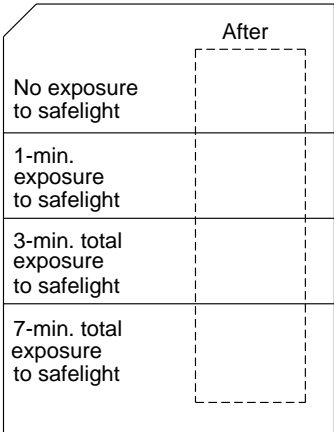

Figure 2
5. Make the safelight exposures. With all the lights still off, place a large piece of cardboard on top of the developer tray or in the area where safelight illumination is brightest. Place the photographic paper on the cardboard. Using an opaque card, cover about one fourth of the paper. Turn on the safelight, and expose the uncovered part of the paper for 1 minute. Move the card to cover half of the paper, and expose the other half for an additional 2 minutes. Cover all but one fourth and expose it for 4 more minutes. The four parts of the paper will have received 0, 1, 3, and 7 minutes of safelight exposure. (See Figure 2.)